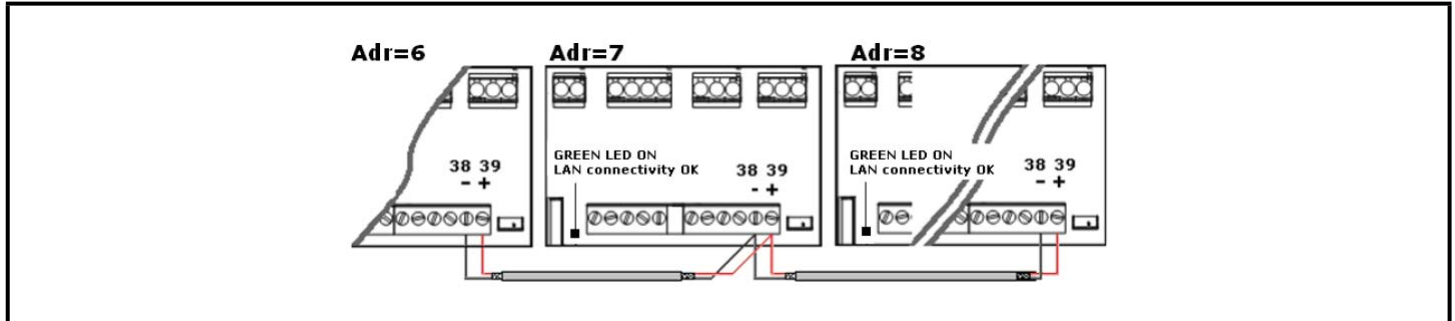

Figure 5-3 - LAN Connection
1. Connect a shielded cable between terminals 38 [-] and 39 [+] for a **maximum of eight (8) sections**.
2. The **Adr** parameter is the number that identifies each electronic board. *Address duplication is not permitted*; in this case, synchronized defrost and the communication with the monitoring system are not guaranteed (the **Adr** is also the MODBUS address). See **Figure 5-3** for an example of a properly configured LAN connection: